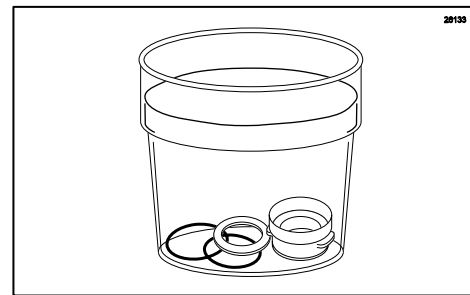

Figure 86
5. Place the Spout Adapter, o-rings, and white gasket in approved sanitizer solution and soak for at least 1 minute. (See Figure 86.)